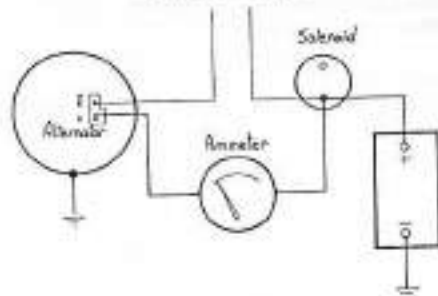

Fig. 79—Use method shown to check alternator output. Refer to text.
**134.** Run engine until normal operating temperature is reached, then stop engine and disconnect battery ground cable. Disconnect the alternator main output lead from solenoid and install an ammeter in the circuit. See Fig. 79. Remove connector from alternator, then remove cover from alternator and short out the regulator.